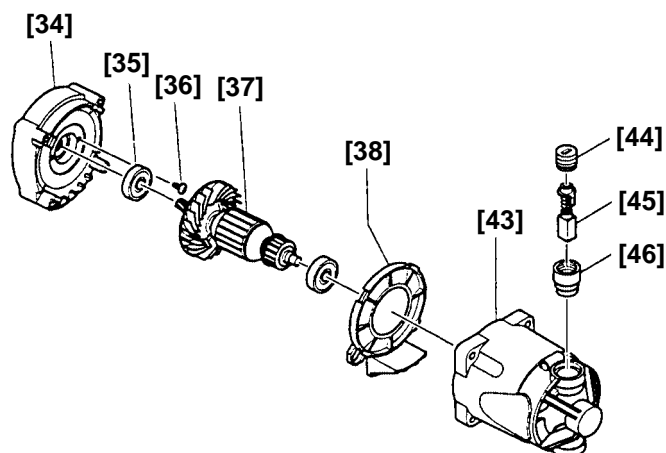

Fig. 6
Removal of Inner Cover (B) [34] and Housing [43] (Fig. 6)